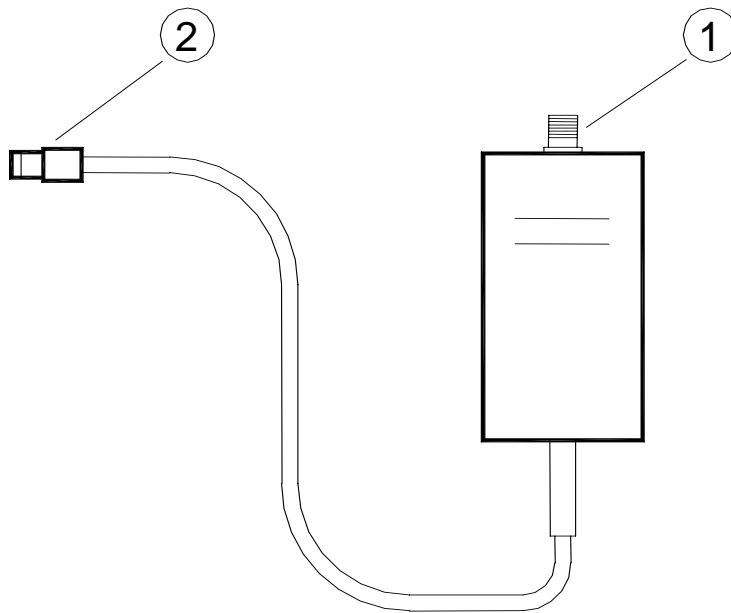

Fig. 6
- connect the Nucletron connector (see Fig. 6 N° 2) to the corresponding connector on the stopwatch
- screw in the antenna (see Fig. 6 N° 1)